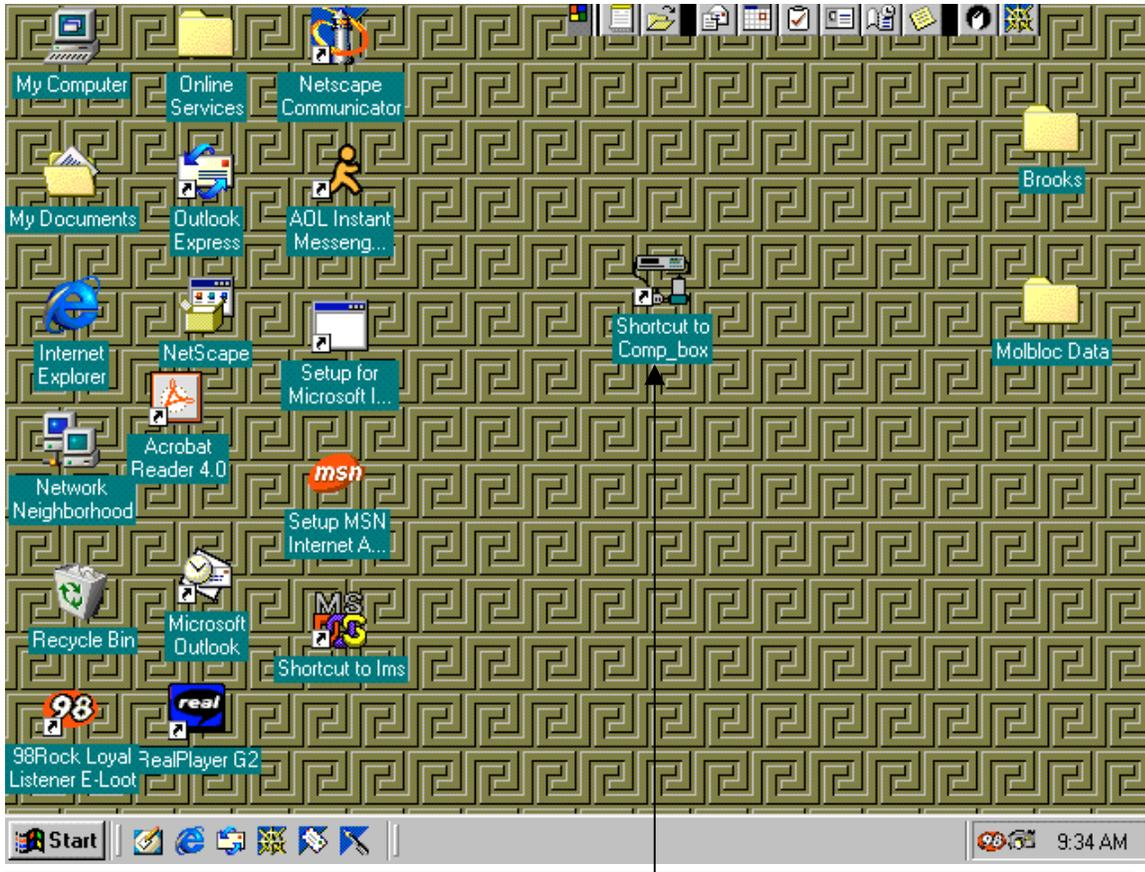

Figure 14 - Shortcut to Comp_box
11.1.4 Double click on the "**Shortcut to Comp_Box**" icon on the desktop (see figure 14).